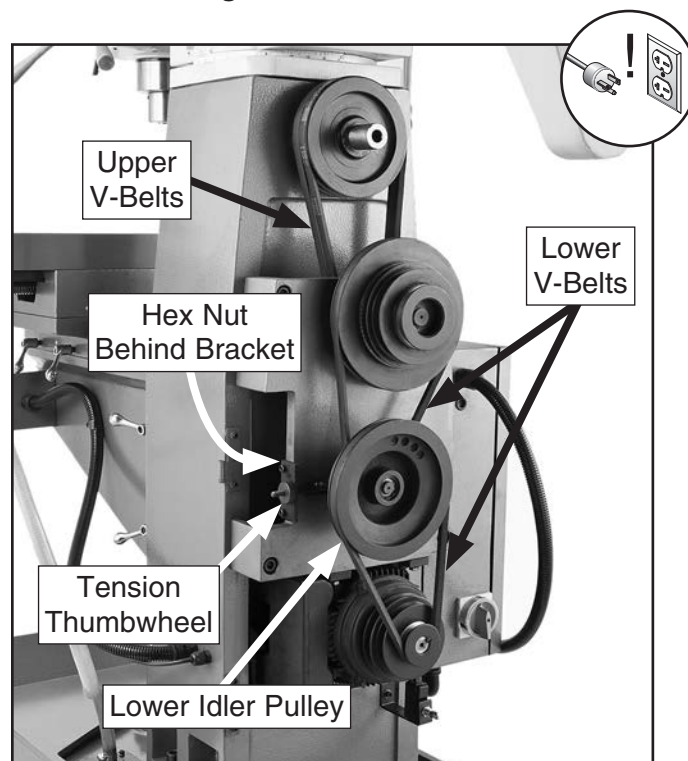

Figure 73. Horizontal spindle V-belts and pulleys (cover removed for photo clarity).
2. Open column rear cover to gain access to horizontal spindle V-belts and pulleys, as shown in **Figure 73**.